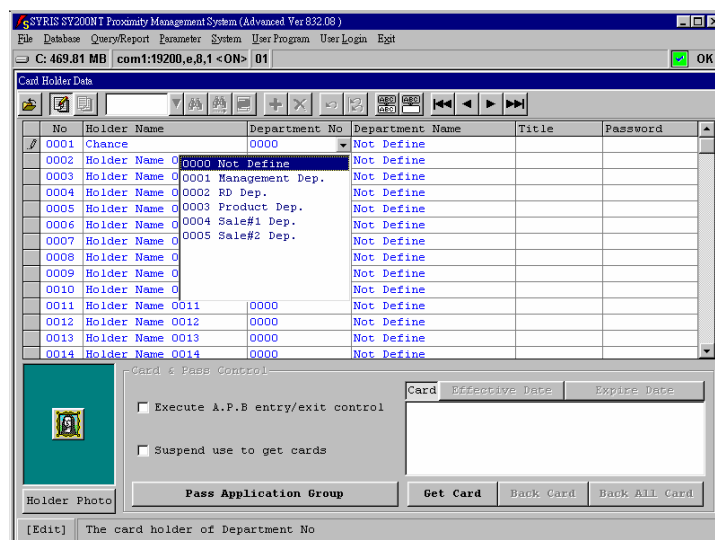

Fig.7-2 Department No Select
3. Click "Department No" column and key in department no or click to select department no, as Fig.7-2.